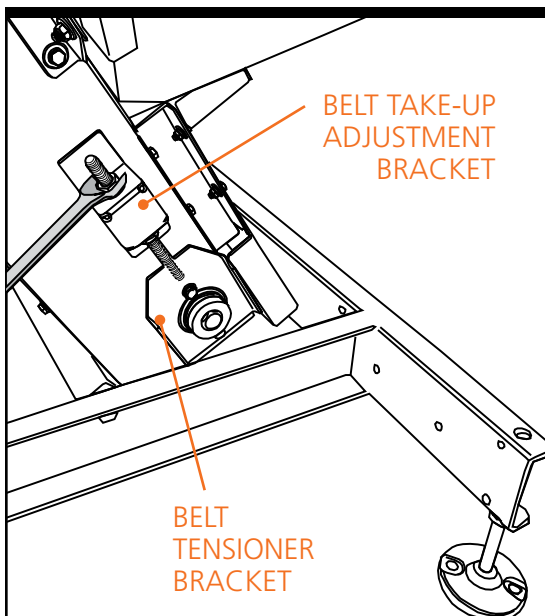

Figure 3-9. Tracking Adjustment of Belt Made to Belt Tensioner
Step 12—Adjust Tracking. Turn the prefeeder on and set to a slow speed to observe tracking of the belt. Run a new belt at least several complete revolutions before adjusting the tracking. If the belt pulls to one side or if the belt moves from side to side, adjust the tensioner bracket on the side to which the belt is pulling (see Figure 3-9).